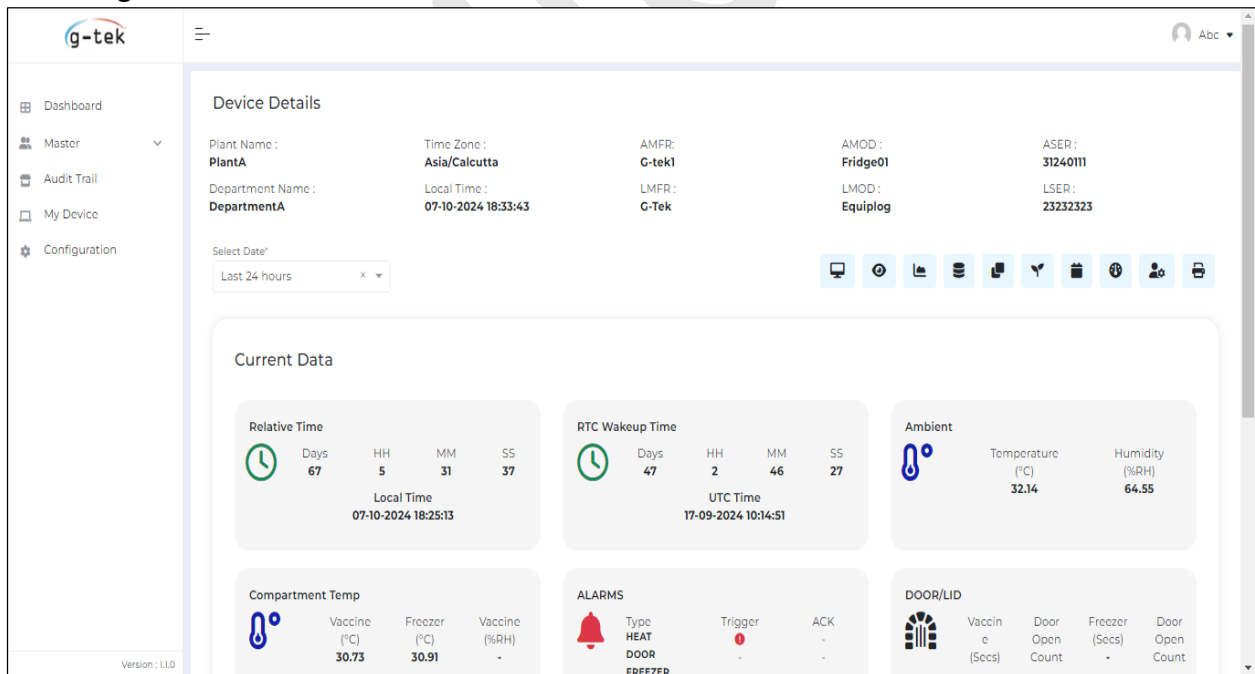

Figure 50 Gtek Cloud Current Data Dashboard for selected data logger
- Most recent data record is shown as current data on the cloud application as seen in the figure 50.